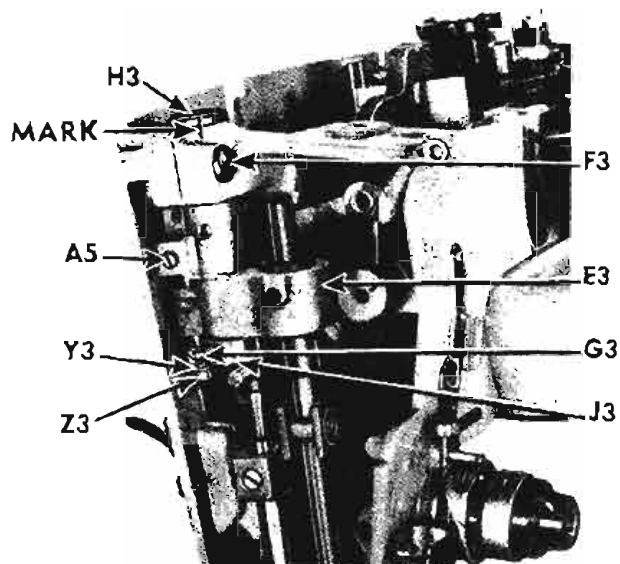

Fig. 48. Needle Bar Vibrating Bracket
3. Mark edge of eccentric hinge pin H3, as shown in Fig. 48, so that its position in relation to casting may be readily regained.